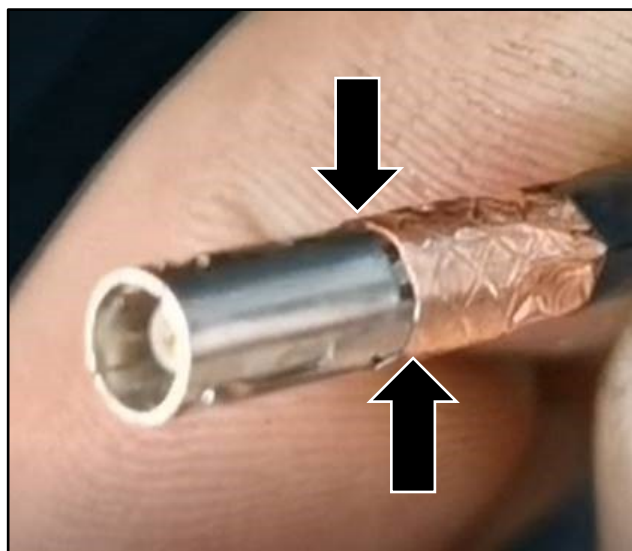

Figure 8
10. This image shows copper tape, that has been applied correctly (refer to Figure 8).